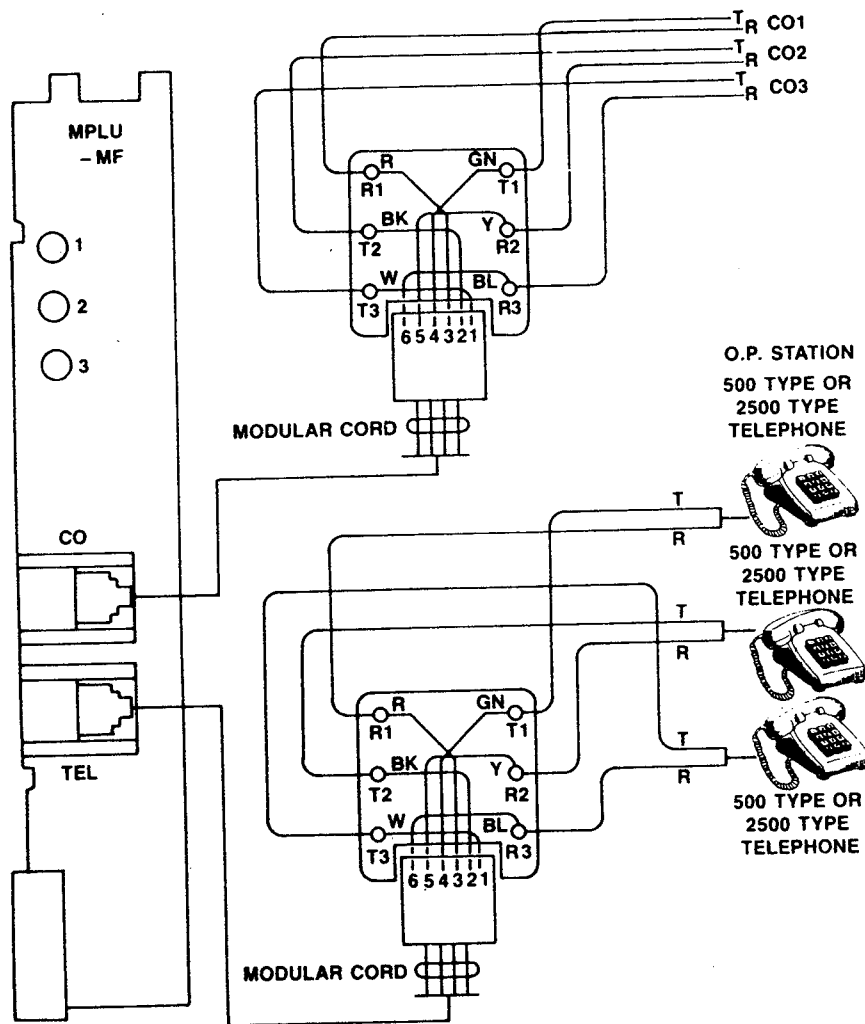

FIGURE 29—MPLU WIRING
08.71 OPL connections are made via 6-wire modular cords to the front of the MPLU. Two cords are required; one is connected to the CO jack and serves up to three CO/PBX line connections, the second connects to the TEL jack and serves the three OPL stations provided by that PCB (Figure 29). The MPLU occupies an MCOU position. Maximum: one MPLU per system.